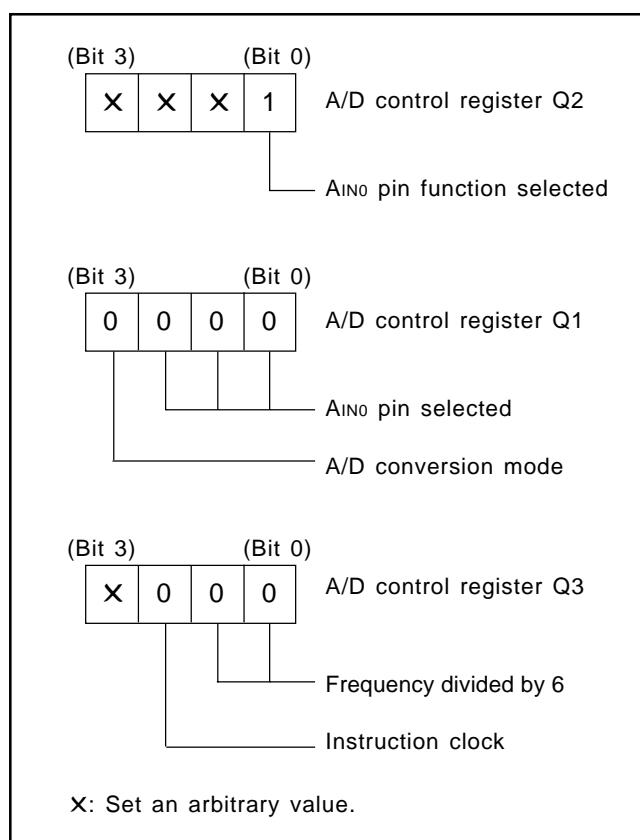

Fig. 39 Setting registers
- ① Select the AIN0 pin function with the bit 0 of the register Q2. Select the AIN0 pin function and A/D conversion mode with the register Q1. Also, the instruction clock divided by 6 is selected with the register Q3. (refer to Figure 39)
- ② Execute the ADST instruction and start A/D conversion.
- ③ Examine the state of ADF flag with the SNZAD instruction to determine the end of A/D conversion.
- ④ Transfer the low-order 2 bits of converted data to the high-order 2 bits of register A (TALA instruction).
- ⑤ Transfer the contents of register A to  $M(Z, X, Y) = (0, 0, 2)$ .
- ⑥ Transfer the high-order 8 bits of converted data to registers A and B (TABAD instruction).
- ⑦ Transfer the contents of register A to  $M(Z, X, Y) = (0, 0, 1)$ .
- ⑧ Transfer the contents of register B to register A, and then, store into  $M(Z, X, Y) = (0, 0, 0)$ .